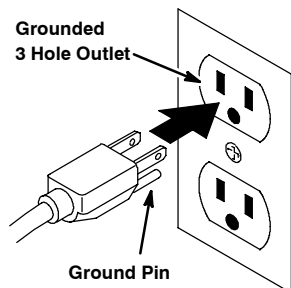

FIG. 29
- Connect the charger's AC power supply cord to a properly grounded receptacle (Figure 29).